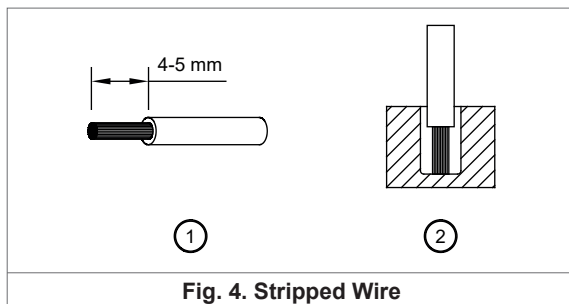

Fig. 4. Stripped Wire
To secure reliable and shock proof connections, the stripping length should be 4-5 mm (see Fig. 4, ①). Please ensure that the wires are fully inserted into the connecting terminals as shown in Fig. 4, ②. All wire strands must be fully inserted into the terminals with the screws securely fastened in order to ensure safety and maximum contact.